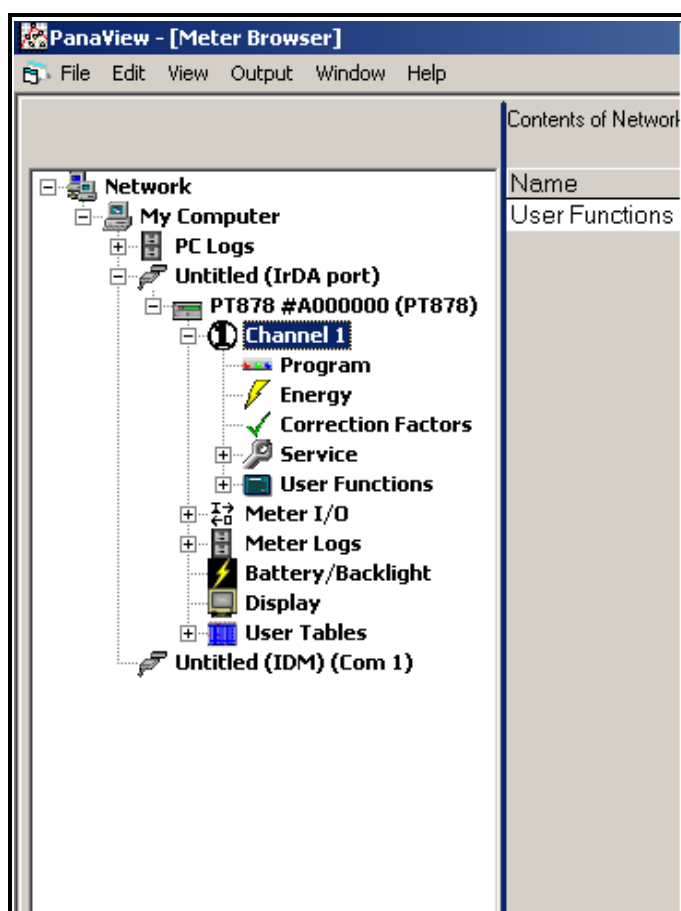
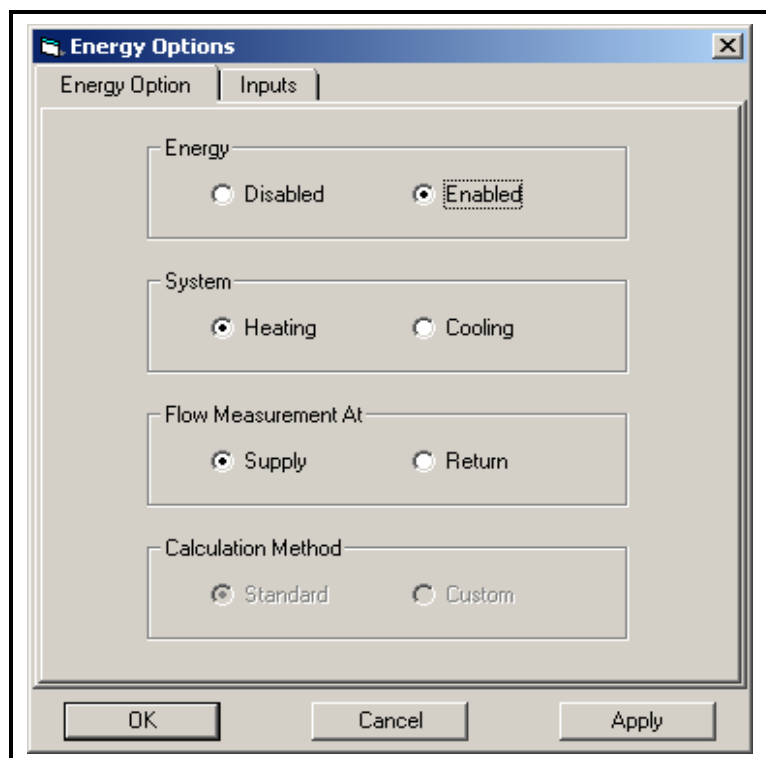

Figure 11: Meter Menu for PT878
Figure 21: The Energy Option Window
3. From the expanded tree, click on the “Channel 1” option. The listing appears similar to Figure 11 on the next page.
To set up energy measurement parameters, click on the “Energy” option shown in Figure 11 on page 12. The window appears similar to Figure 21 below.
To set up the PT878 input and output parameters, click on the “Meter I/O” option shown in Figure 11 on page 12. The tree expands to show three options, “Analog Output,” “Analog Input,” and “Digital Output.” These options correspond to the options in the PT878 Program menu, and are described in Chapter 3, *Programming Site Data*, of the PT878 User’s Manual. To access a particular option, double-click on the listing in the menu tree.